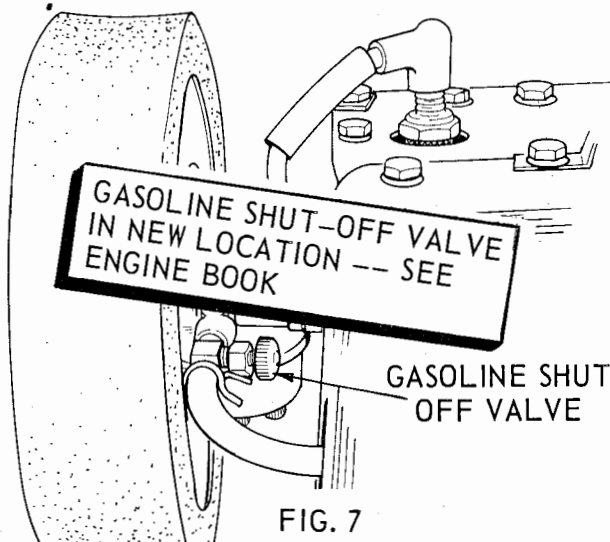

FIG. 7
3. Fill fuel tank with regular grade of clean fresh gasoline, and open fuel shut off valve, Fig. 7.